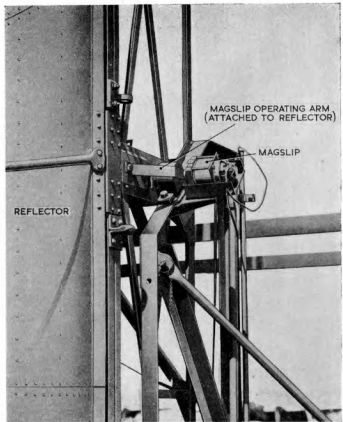

Fig. 34. R.V.461C : magslip assembly
- (3) Fit the magclip operating arm (*fig. 34*).
- (4) Remove the erection hinge pins so that the bottom of the reflector is free.